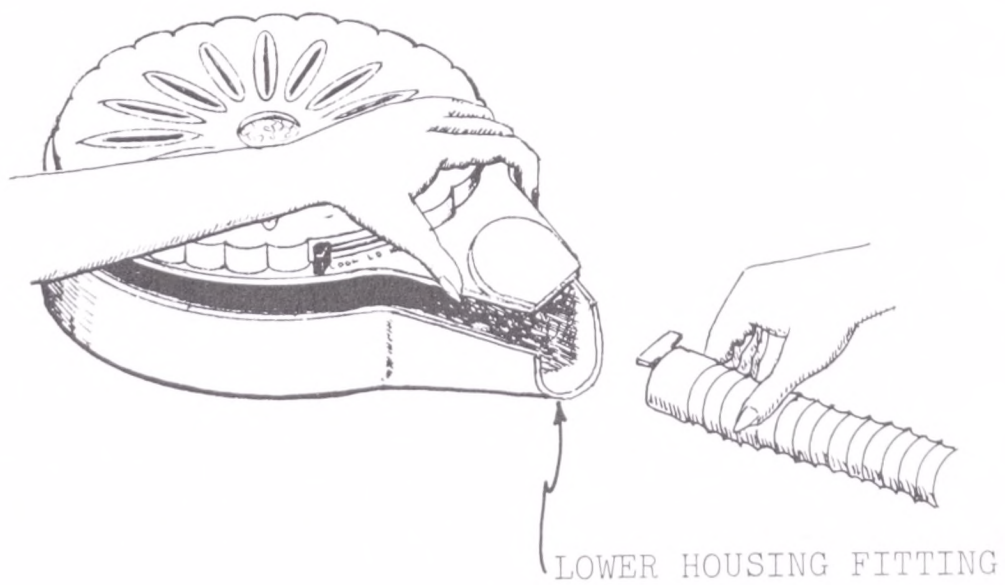

FIG. 3
6. Lift the top half of the dryer housing up and lift hose end up and out of lower half of housing. (*Figure 3*)